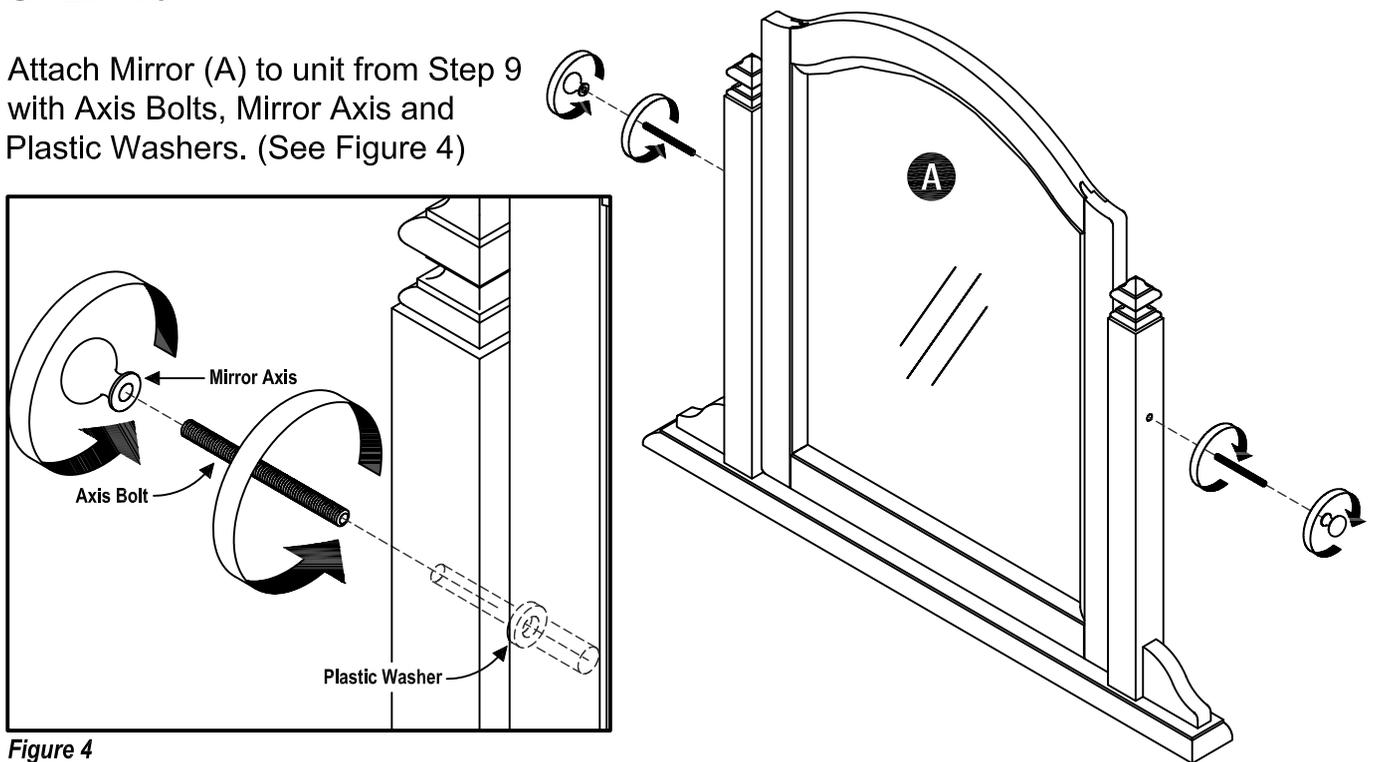

Figure 4
Attach Mirror (A) to unit from Step 9 with Axis Bolts, Mirror Axis and Plastic Washers. (See Figure 4)